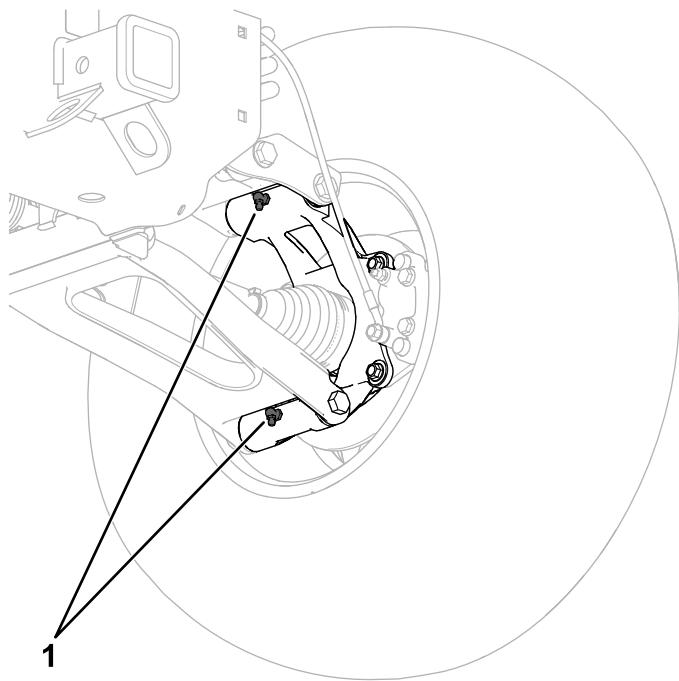

Figure 57
- Rear knuckle pivots (4); refer to Figure 57